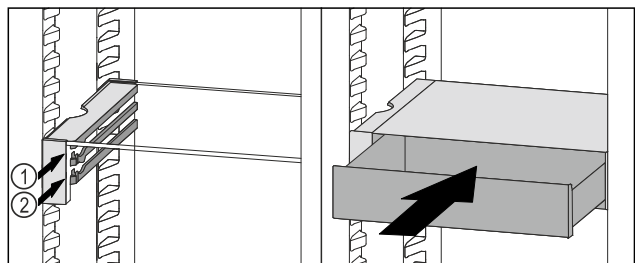

Fig. 168
- ▶ Place the VarioSafe drawer behind the stoppers on desired rib *Fig. 168 (1)* or *Fig. 168 (2)*.